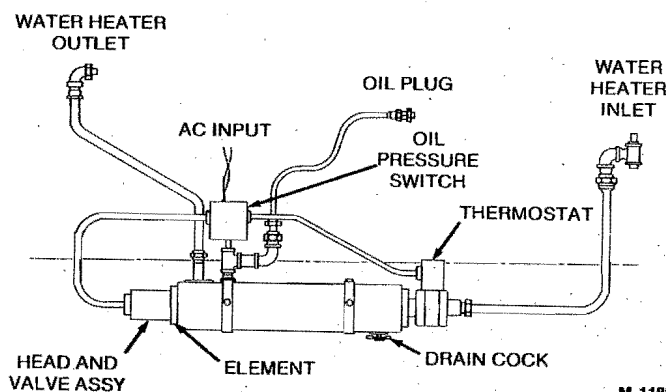

FIGURE 6. WATER JACKET HEATER
**Water Jacket Heater (optional)** can be installed to keep the engine warm to ensure starting under adverse weather conditions. Figure 6 shows the mechanical installation for the heater. Connect the heater to a power source that will be on when the engine is NOT running. Refer to the Electrical Connections section to ensure the voltage rating is correct for the heater element.